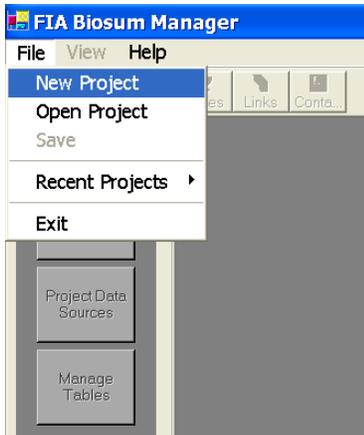

Figure 2.1 – Select New Project from the main menu.
1. To create a new project, start the FIA BioSum Manager application and select <File><New Project> (see Figure 2.1).